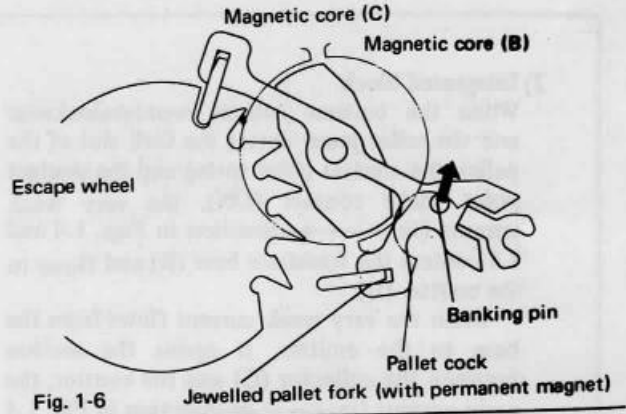

Fig. 1-6 Jewelled pallet fork (with permanent magnet)
- (1) When the pallet is standing still, the permanent magnet and magnetic cores B and C (which are usually not magnetized but will be magnetized only when power is fed to the coil) push the pallet to the entry pallet jewel or the exit pallet jewel's side and this one-side drawing revolving force performs "draw-safety-action." (Fig. 1.6)